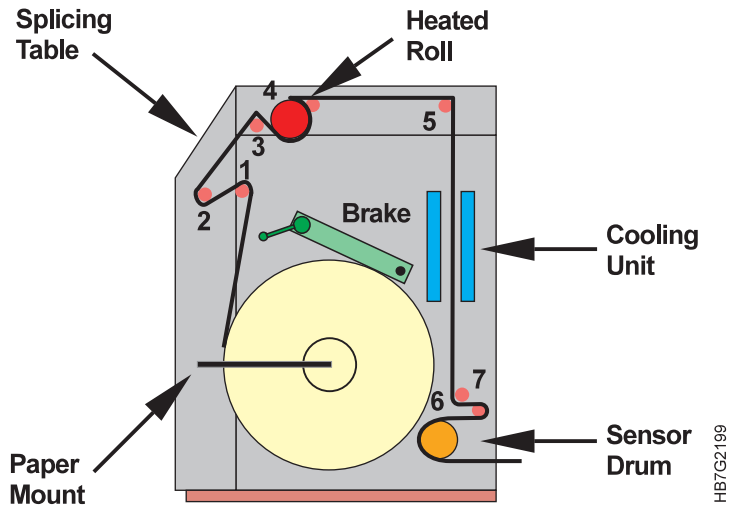

Figure 299. Paper Supply Paper Path
- 19 Place the paper between the two parts of the cooling unit, as shown in Figure 299 on page 360.